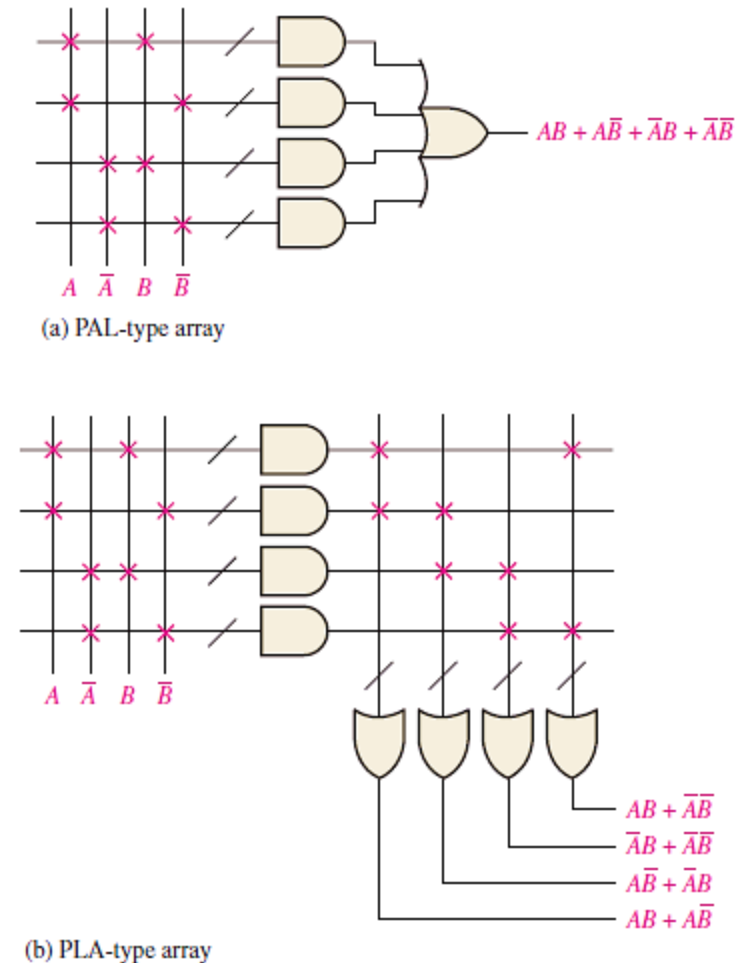

FIGURE 4 Comparison of a basic PLA to a basic PAL type PLD architecture.
- Figure 4 compares a simple PAL structure with a simple PLA structure. The PAL has a programmable AND array followed by a fixed OR array and produces an SOP expression, as shown by the example in Figure 4(a).
- The **PLA** has a programmable AND array followed by a programmable OR array, as shown by the example in Figure 4(b).